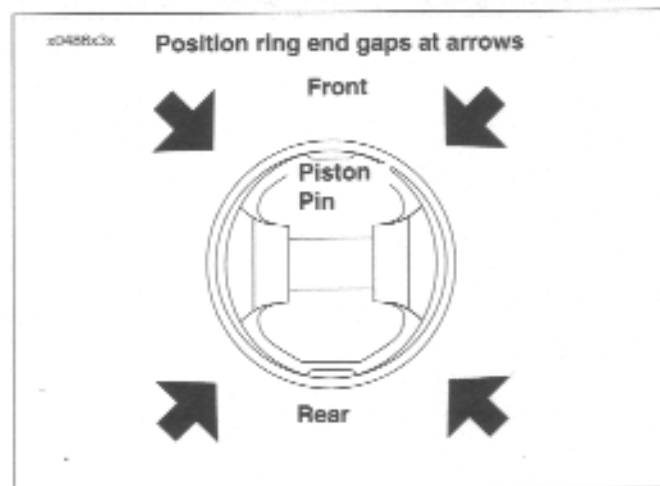

Figure 3-100. Ring End Gap Position
- See Figure 3-100. Install rings so end gaps of adjacent rings are a minimum of 90° apart. Ring gaps are not to be within 10° of the thrust face centerline.